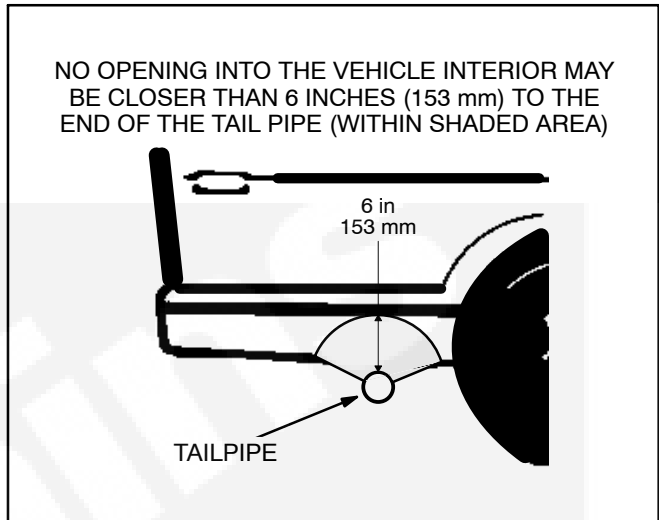
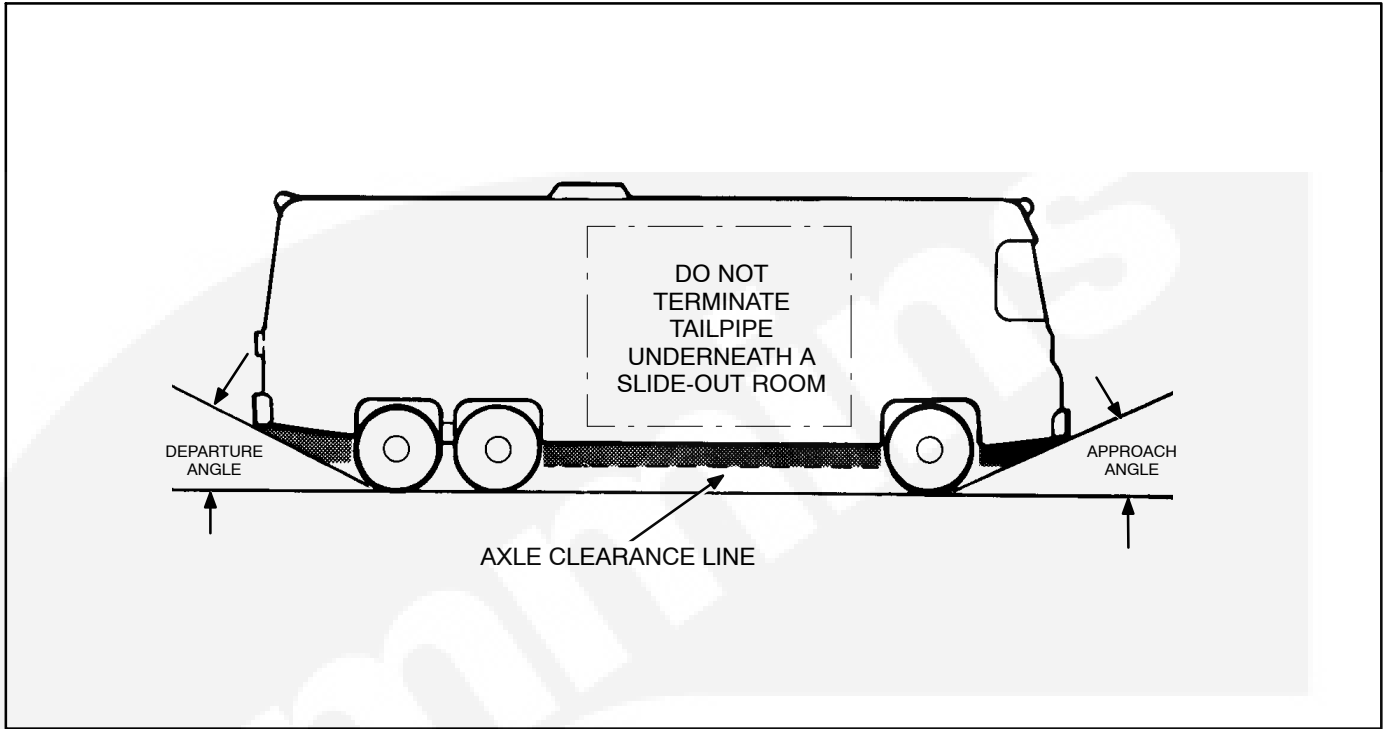

FIGURE 3-4. MINIMUM DISTANCES TO OPENINGS
FIGURE 3-5. APPROACH AND DEPARTURE ANGLES AND AXLE CLEARANCE LINE
⚠WARNING *EXHAUST GAS IS DEADLY! To keep exhaust gases from entering the vehicle do not terminate the exhaust tailpipe underneath the vehicle or closer than specified to openings into the vehicle (Figure 3-4) or route it such that it is likely to be damaged (Figure 3-5). Use approved materials and parts only.*
Note: Do not terminate the tailpipe underneath a slide-out room (Figure 3-5), unless the bottom of the slide-out, including skirts and moldings, is at least 3 feet above the end of the tailpipe.
9. Do not terminate the tailpipe such that it is closer than 6 inches (153 mm) to any opening into the vehicle interior (door, window, vent). See Figure 3-4.
10. Route the tailpipe such that it will not likely be struck when the vehicle is moving. At least keep it out of the approach and departure angles of the vehicle and above the axle clearance line (Figure 3-5).